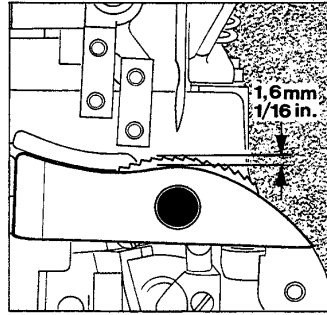
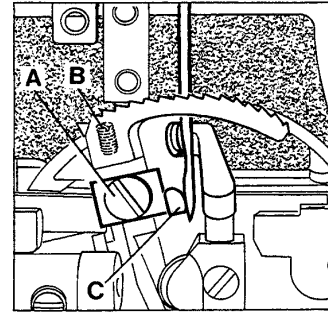

Fig.9
Fig.10
The lower feed dog is set correctly when its teeth rise slightly more than the depth of a full tooth (approx. 1.6 mm (1/16") above the throat plate (see Fig. 9). To raise or lower the feed dog loosen screw (A, Fig. 10) and set the feed dog to the specified height. Retighten screw (A). Now reset stop screw (B) in feed dog to maintain the adjusted feed dog height.
Set the needle guard (C, Fig. 10) so that it just touches the needle when it is at its most forward point of travel. To move guard forward or backward loosen screw (A) and move needle guard as required. Retighten screw.
**NOTE:** Screw (A) serves also to fasten the lower feed dog. Therefore make sure not to disturb the feed dog height when setting the needle guard.
El ajuste correcto del diente inferior de arrastre se logra cuando los dientes sobrepasan aprox. 1,6 mm la plancha de la aguja (Ver Fig. 9). Para bajar o subir el transportador hay que soltar el tornillo (A, Fig. 10) ajustar la altura del diente de arrastre y apretar el tornillo (A) otra vez. Ahora hay que ajustar el contra-tornillo (B) para mantener esta posición.
Fijar el guarda aguja (C, Fig. 10) de tal manera que en el punto mas avanzado de su movimiento toque levemente la aguja. Para este ajuste hay que soltar el tornillo A y mover el guarda aguja como sea necesario.